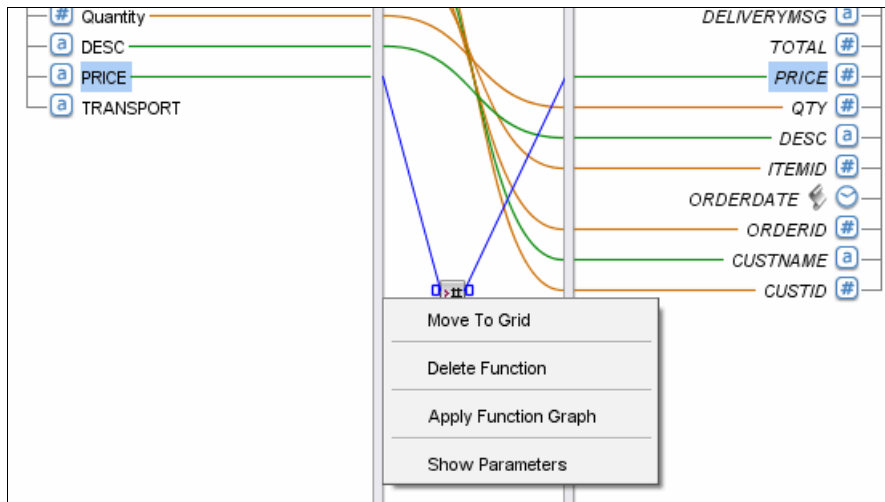

Figure 12-73 Mapping PRICE using Number function.
- c. Drag the **Number** function to PRICE on the right. Right-click the **Number** function, and select **Apply Function Graph**. See Figure 12-73 on page 509.